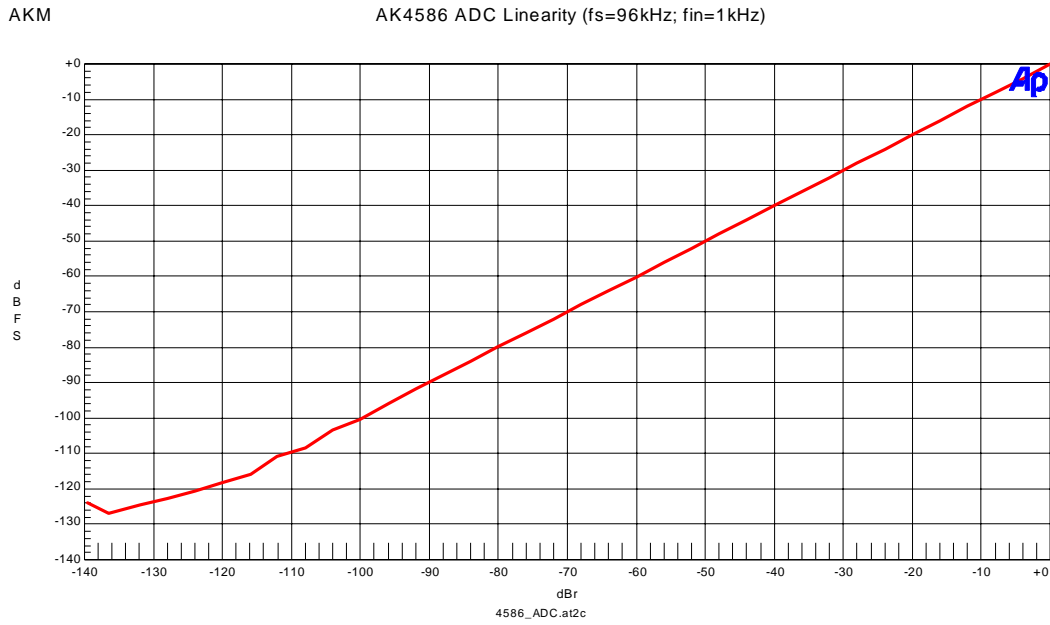

Figure 2-6. Linearity (fin=1kHz)
- Figure 2-6. Linearity (fin=1kHz)